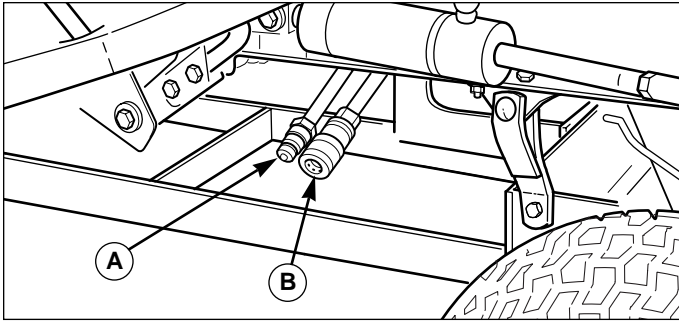

Figure 19. Install Quick Connectors
1. Locate the metal cross-over tube with a male threaded fitting on one end and a female hex fitting on the other. Install one female quick connector (B, Figure 19) on the male threaded fitting.
2. Locate the metal cross-over tube with a male threaded fitting on one end and a bead on the other. Install one male quick connector (A, Figure 19) on the threaded end.